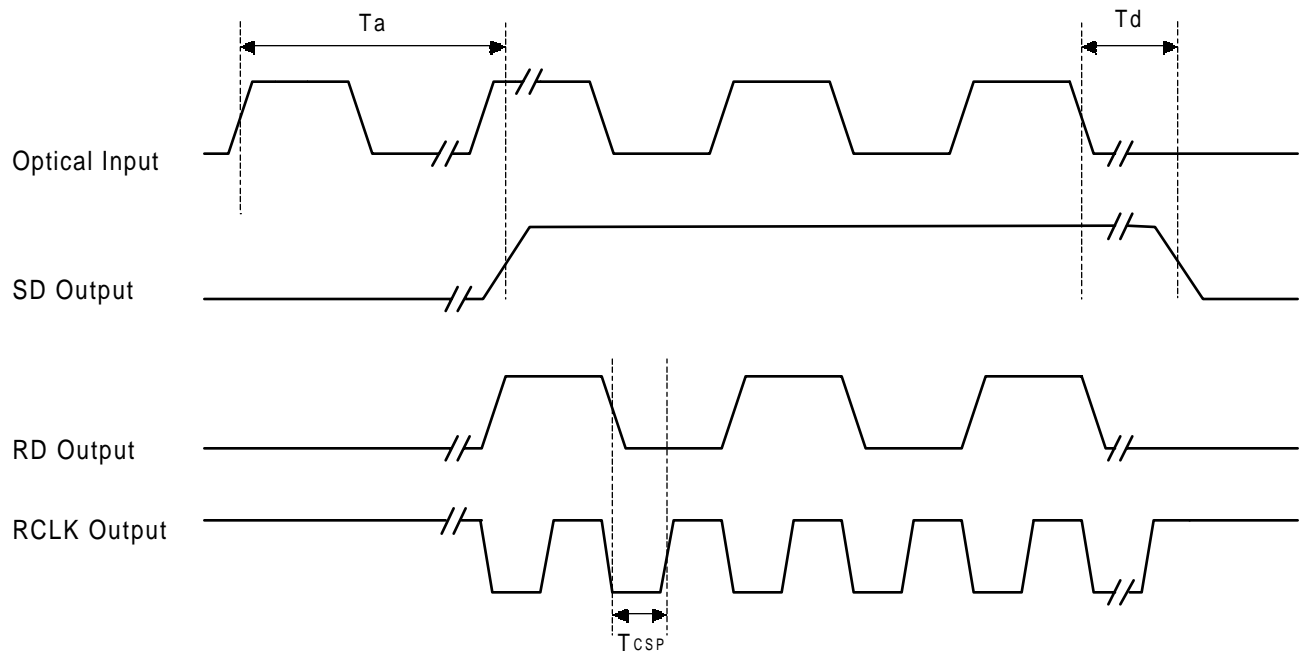

Figure 4 Timing Chart
5. Time difference between RD transition and rising edge of RCLK. Refer to Figure 4.
Eye Mask for Optical Output	Refer to Figure 4